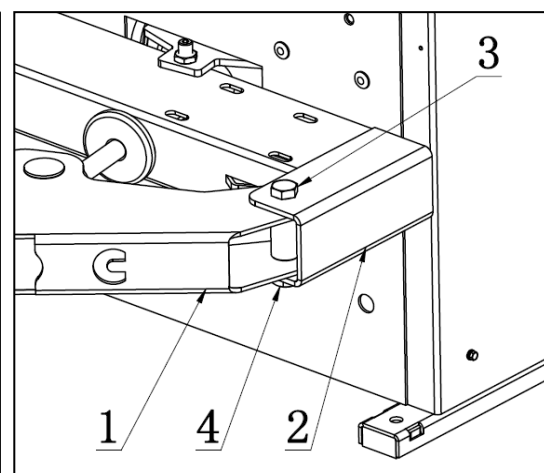

FIG8
- ✧ As shown in FIG8, align the installation hole of bead breaking arm (FIG8-1) to the installation hole of bead breaking arm bracket (FIG8-2).